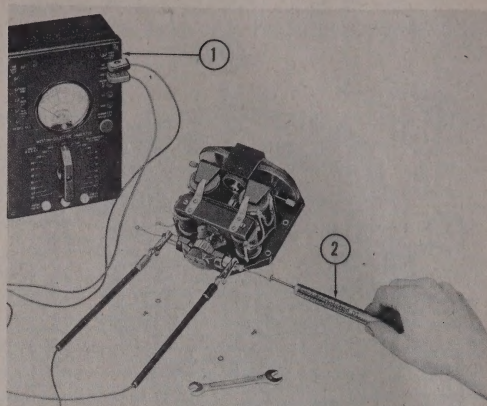

Figure 282 — Checking Torque Motor Brush Tension
3. Turn the brush pressure adjusting plugs in part way. Then test the brush tension, using a spring scale. (See figure 282.) This tension must be adjusted by means of the adjusting plug to give from 3 to 3½ ounces of brush tension on each brush. After the proper tension is obtained, connect the lug on the brush lead wire to the brush holder terminal, using a 3-48x3/16-inch binding-head screw and a flat washer. In testing brush tension, it is best to connect an ohmmeter between the two brush holders so that the correct tension may be obtained at the exact moment when the